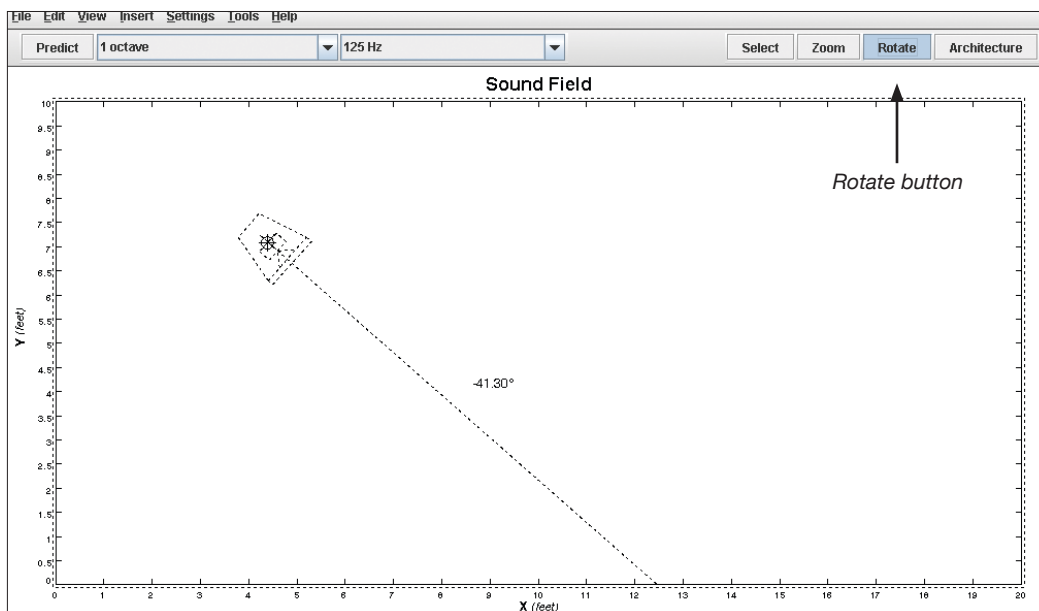

Figure 12. Rotate an object after selecting it or its center line.
5. The degree of angle change from the current loudspeaker position will be shown numerically next to the cursor (Figure 12), with the current position of the loudspeaker being designated as 0 degrees.